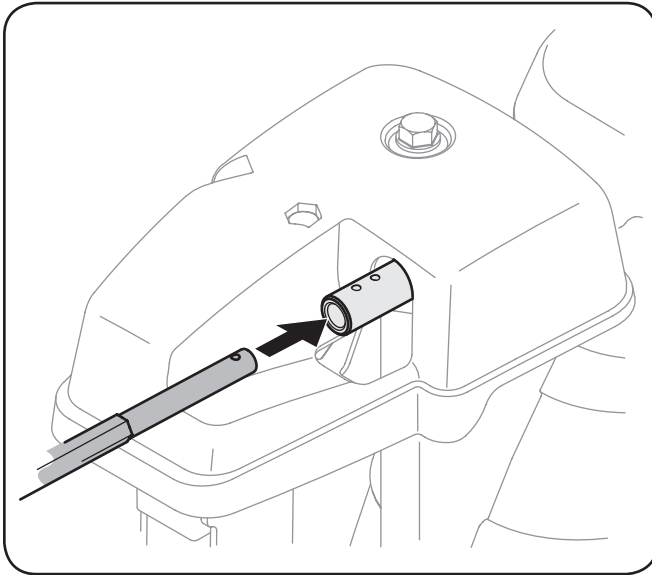

Figure 3-4
2. Insert chute control rod into chute control head. Push rod as far into chute control head as possible, keeping the holes in the rod pointing upward. See Figure 3-4.